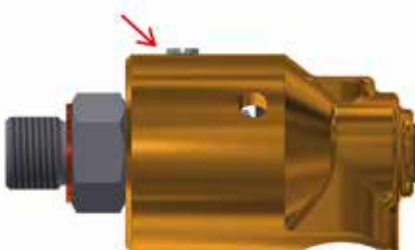
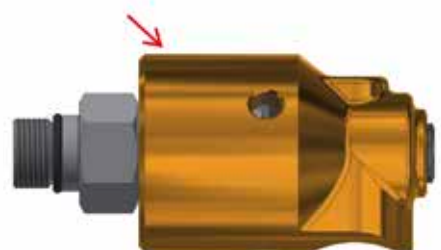

Fig. 13
Fig. 14
- If the union has a plug (see figure 13) or has no plug or nipple (see figure 14), do not relubricate.